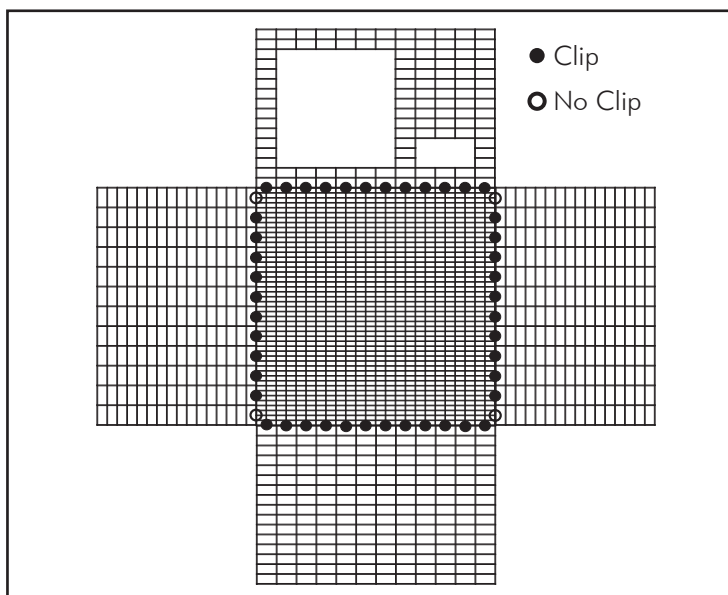

Figure 3
2. Lay out the hutch panels as shown in Figure 3. You can put the door on the right or left side of the front of the hutch.